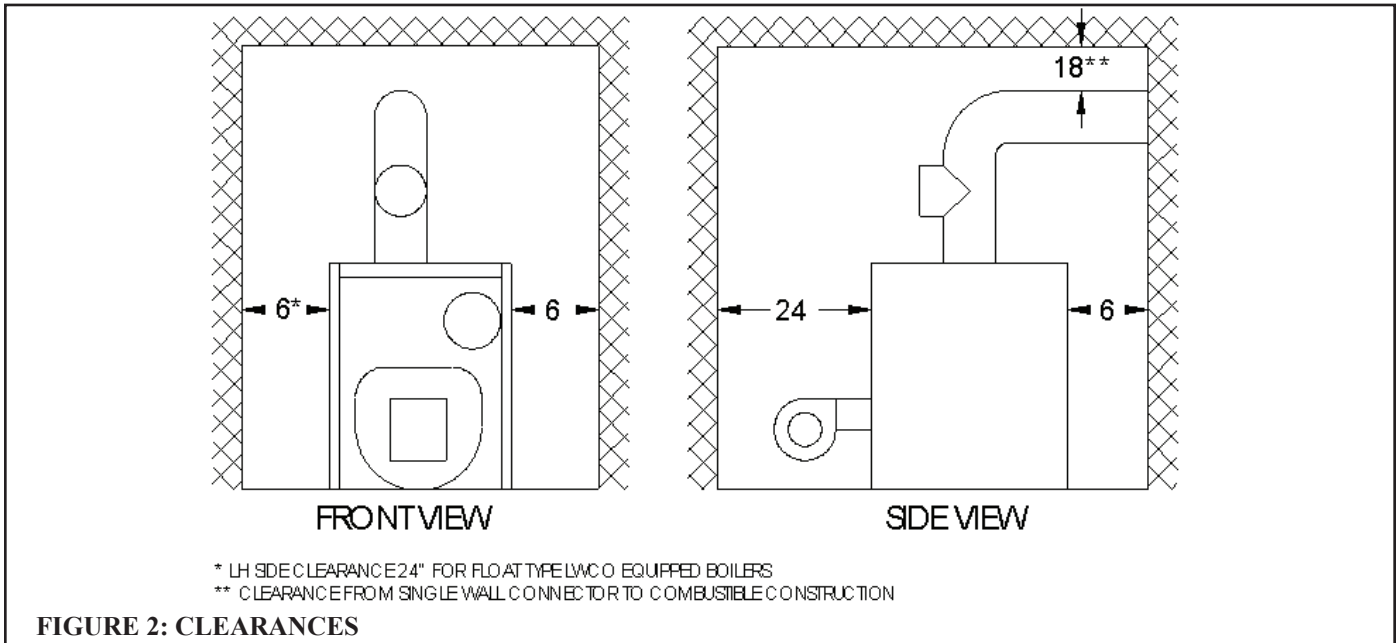

FIGURE 2: CLEARANCES
- Observe the minimum clearances shown below. Except as noted, these clearances apply to all combustible construction, as well as noncombustible walls, ceilings and doors. Also see Figure 2.